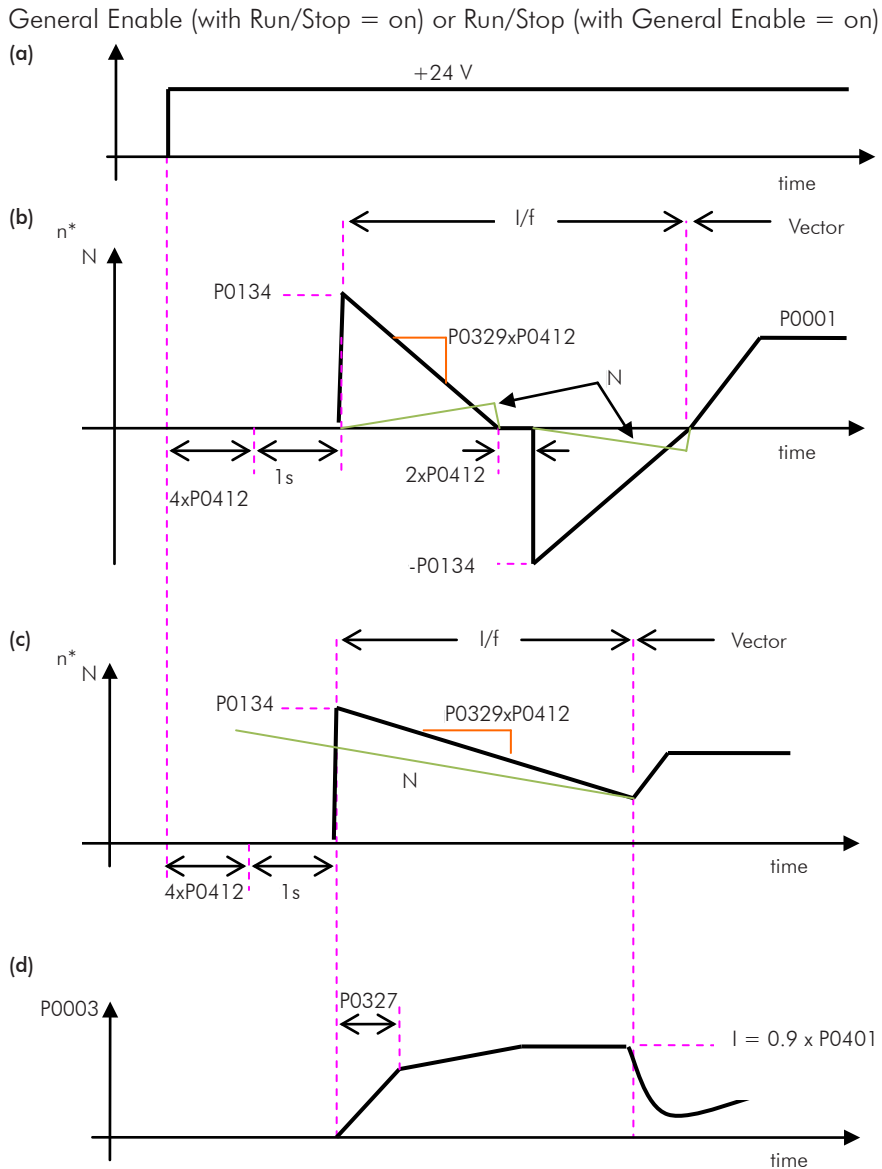

Figure 14.6 - (a) to (d) - Influence of P0327 and P0329 during Flying Start (P0202 = 3)
The behavior of the Flying Start function (FS) in the sensorless mode during acceleration and reacceleration can be understood from the Figure 14.6 on page 14-14.
The Figure 14.6 on page 14-14 \(b\) shows the behavior of the speed reference when the FS function is started with stopped motor shaft and small P0329 value (not optimized).
The Figure 14.6 on page 14-14 \(c\) shows the speed reference when the FS function is initiated with the motor shaft already running in the desired direction, or with stopped shaft and an already optimized P0329.